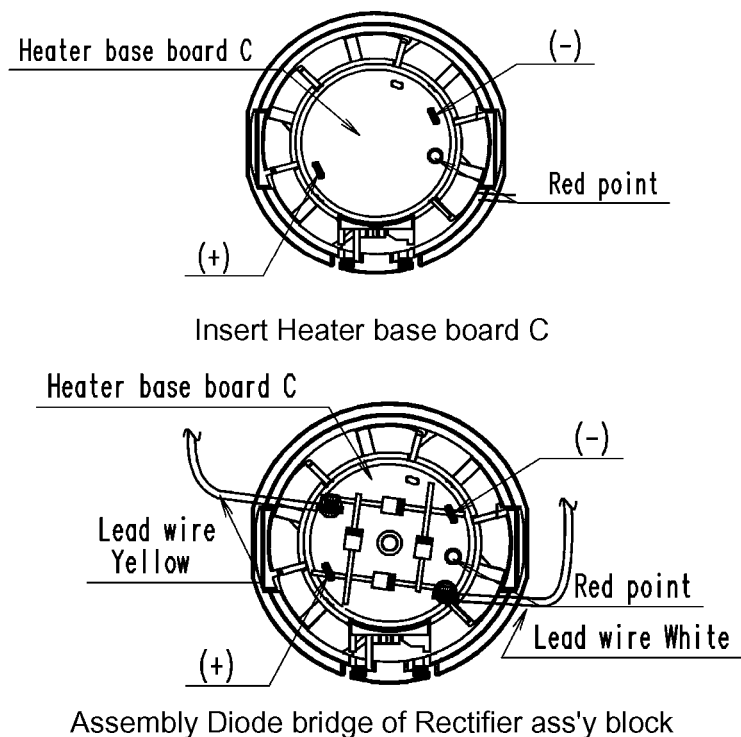

Figure 6
4. Insert Heater base board C to Motor ass'y block and assembly Diode bridge of Rectifier ass'y block to Motor 's terminals by solder as show in figure 6.